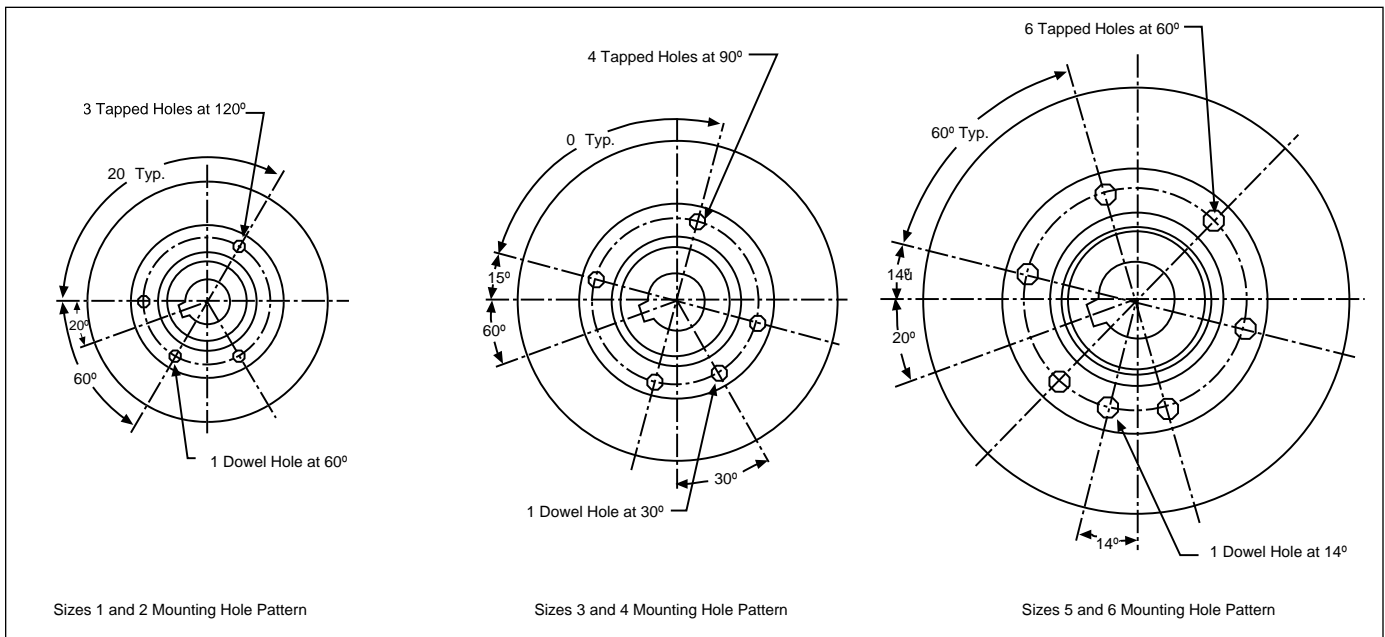

FIGURE 7 – TYPE T STANDARD MOUNTING HOLE PATTERNS
A. Type T Housing (Refer to Figure 7)